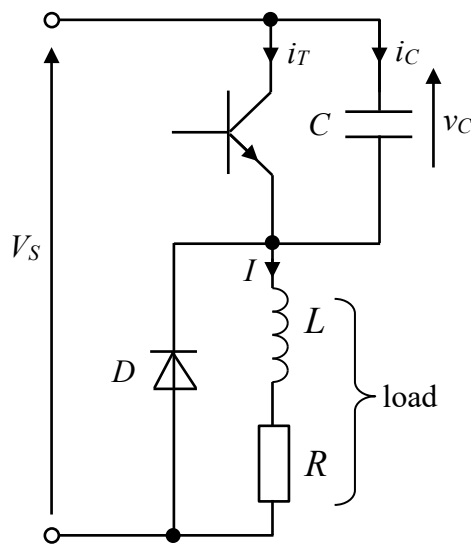

Figure 5a
- (a) Given that the resulting switched waveforms for figure 5a are shown in figure 5b, and that i_T is linear between $t = 0$ and $t = t_2$, derive expressions in terms of the circuit variables for each of the following: